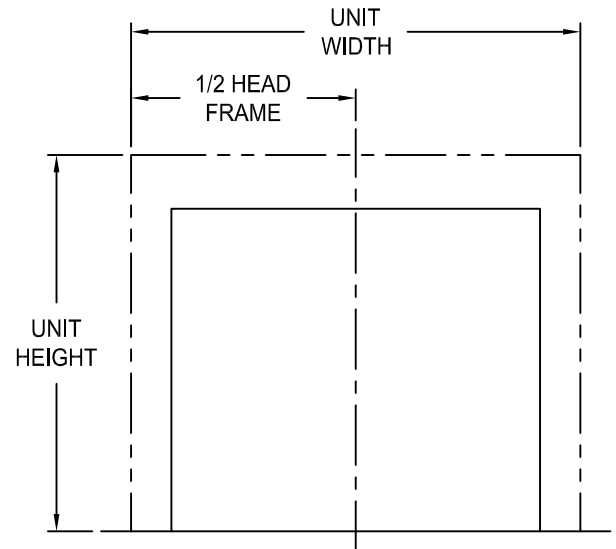

fig. 1
Make sure there is enough space to install shelter (Figure 1 - Standard Unit).
- * Position vertical frames on wall so that the outside edge is flush with the vertical lines from fig. 1, and that bottom edge is flush with the floor (FIG. 5).